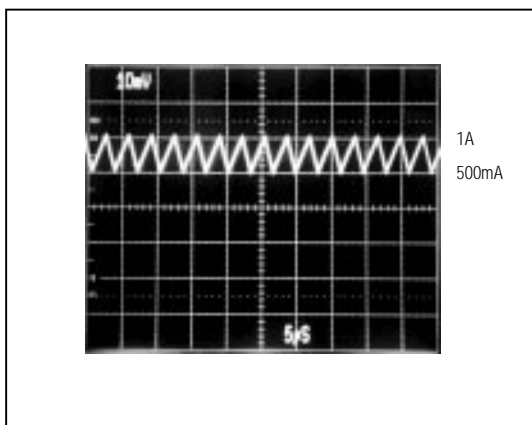

Figure 4a. CCM, Heavy Load Current Waveform (500mA/div)
The MAX761/MAX762 also limit the peak inductor current, allowing the devices to run in continuous-conduction mode (CCM) and maintain high efficiency with heavy loads (Figure 4a). This current-limiting feature is a key component of the control circuitry. Once turned on, the switch stays on until either (1) the maximum on-time one-shot turns it off ( $8\mu s$  later), or (2) the current limit is reached.
The coil's inductance need not satisfy this criterion exactly, as the circuit can tolerate a wide range of values. Larger inductance values tend to produce physically larger coils and increase the start-up time, but are otherwise acceptable. Smaller inductance values allow the coil current to ramp up to higher levels before the switch can turn off, producing higher ripple at light loads. In general, an  $18\mu\text{H}$  inductor is sufficient for most applications ( $V_{\text{IN}} \leq 5\text{V}$ ). An  $18\mu\text{H}$  inductor is appropriate for input voltages up to  $3.6\text{V}$ , as calculated above. However, the same  $18\mu\text{H}$  coil can be used with input voltages up to  $5\text{V}$  with only small increases in peak current, as shown in Figures 4a and 4b.